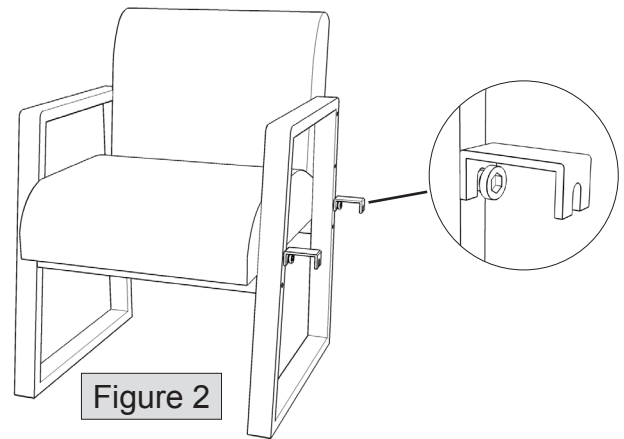

Figure 2
5. Attach the 2 ganging brackets to one of the chairs, as shown in figure 2. Tighten bolts securely.